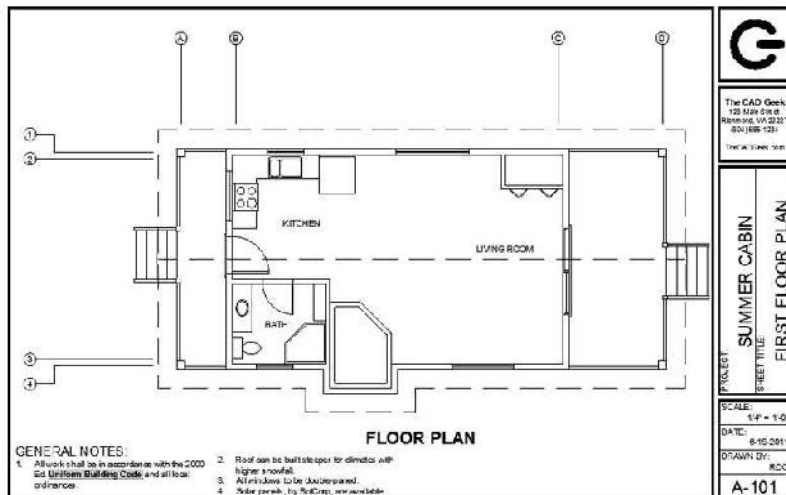

FIGURE 9.11: The grid with all symbols inserted
12. Continue repeating steps 4 through 10, but select the GRID-H block for the four grid symbols that run down the left side of the floor plan. The result should look like Figure 9.11.